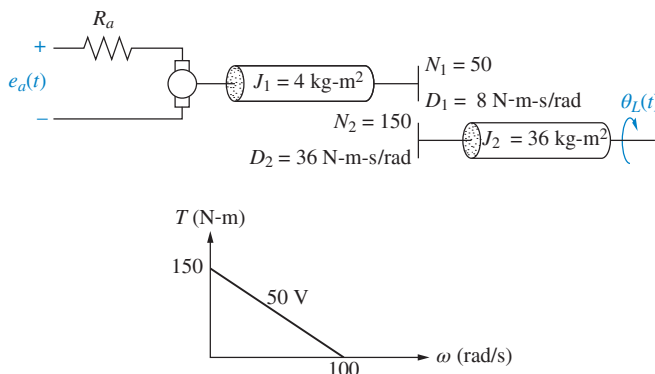

FIGURE P2.30
45. For the motor, load, and torque-speed curve shown in Figure P2.30, find the transfer function,  $G(s) = \theta_L(s)/E_a(s)$ . [Section: 2.8]